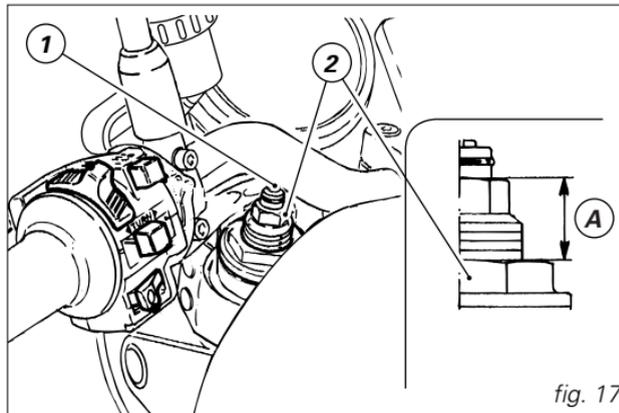

fig. 17
- 1) (fig. 17) to adjust rebound damping;
- 2) (fig. 17) to adjust spring preload;